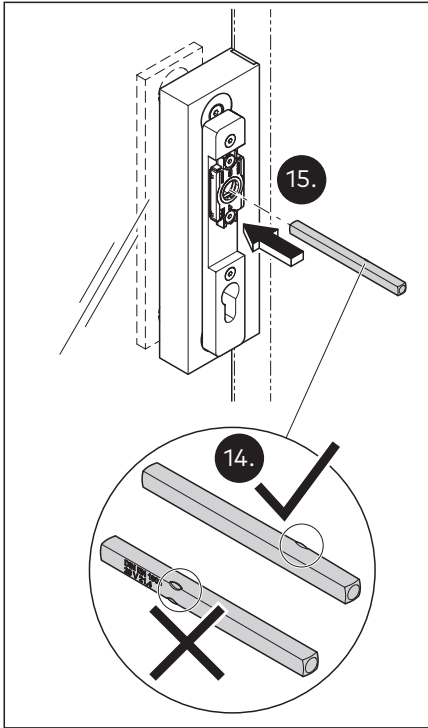

Fig. 19 Install the square spindle.
- Observe the alignment of the square spindle (Fig. 19).